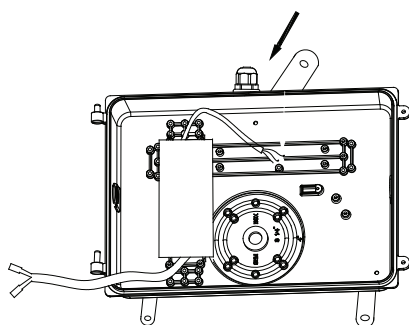

Figure 2
2. Choose an appropriate connection hole according to your requirements, Loosen the plug, and then fit the waterproof connector from the accessories; rotate the three mounting kits to the proper angle. (Figure 2)